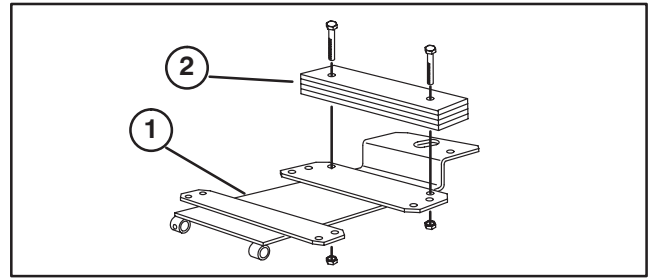

Figure 12
- Mount weight assembly to rear holes in seat support with (2) 5/16-18 x 2-1/4" lg capscrews and locknuts (Fig. 12).